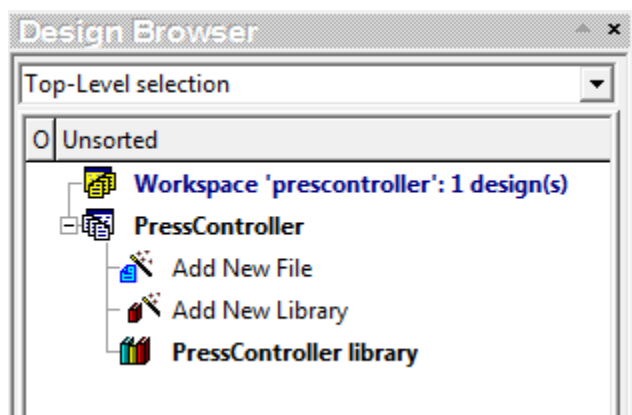

Figure 4 Design Browser after creation of workspace and design
- The Design Browser now shows a workspace name and new design attached with it. (Refer to Figure 4)